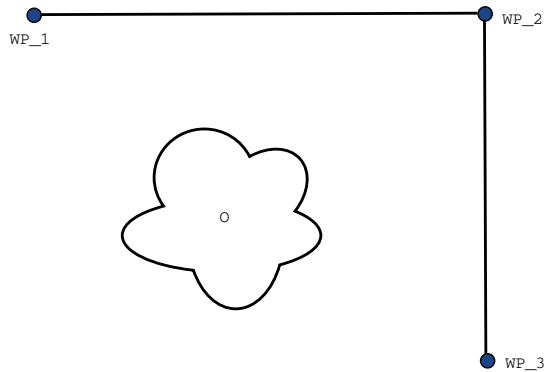

Figure 16.2: WP_1: initial position, WP_2: via point, WP_3: pick up position, O: obstacle.
Example Consider a pick and place application as an example (see figure 16.2), where the robot is currently at Waypoint 1 (WP_1), and it needs to pick up an object at Waypoint 3 (WP_3). To avoid collisions with the object and other obstacles (O), the robot must approach WP_3 in the direction coming from Waypoint 2 (WP_2). So three waypoints are introduced to create a path that fulfils the requirements.